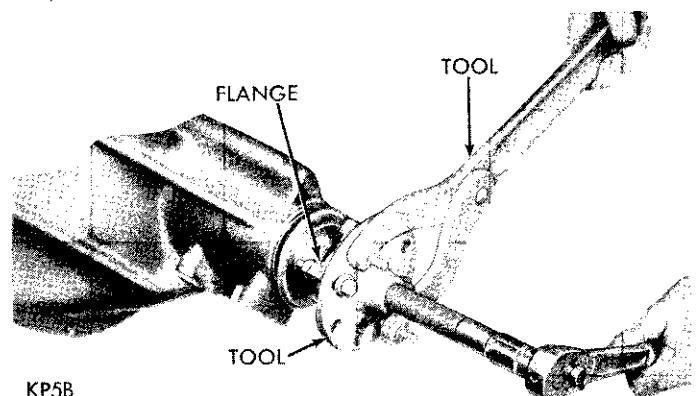
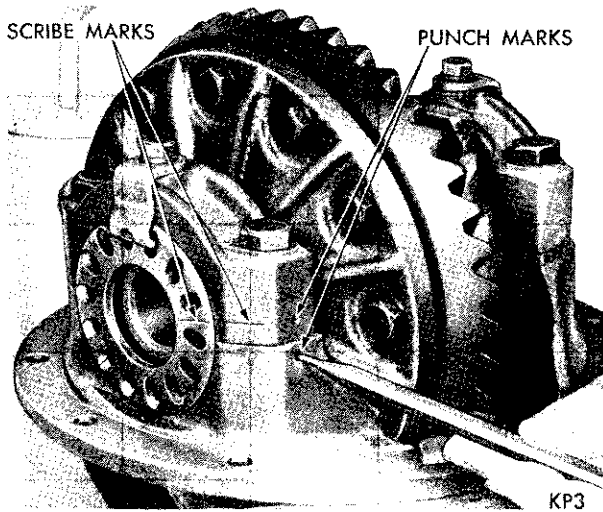

Fig. 17—Removing Companion Flange
Fig. 18—Marking Bearing Caps and Adjusters
(2) Rotate drive gear several complete revolutions while noting total indicator reading. Mark drive gear and differential case at point of maximum runout. The marking of differential case will be very useful later in checking differential case runout. Total indicator reading should be no more than .005 inch. If runout exceeds .005 inch the differential case may be damaged, and a second reading will be required after drive gear has been removed. This operation is covered during "Differential Disassembly". Remove dial indicator.
(3) With Tool C-3281 hold companion flange and remove drive pinion nut and Belleville washer.
(4) Install companion flange remover Tool C-452 and remove flange (Fig. 17).
(5) Using a screwdriver and hammer, remove the drive pinion oil seal from the carrier.
(6) While holding one hand over nose end of carrier, invert carrier in stand. The front pinion bearing cone, shim pack and bearing spacer (where used) will drop from carrier.
(7) Apply identifying punch marks on differential bearing pedestals of carrier, differential bearing caps and bearing adjusters for reassembly purposes (Fig. 18).